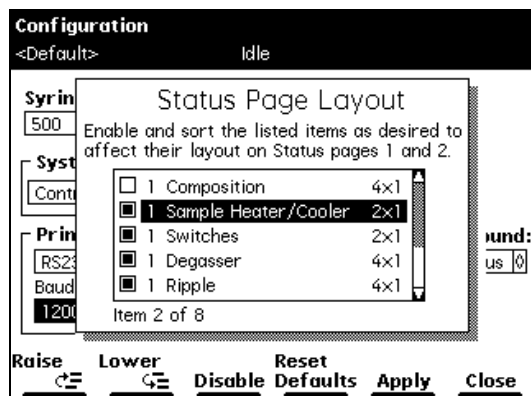

Figure 4-18 Status Page Layout Dialog Box
1. From the Main screen, press **Config**, **More**, then **Status Layout**. The Status Page Layout dialog box is displayed (Figure 4-18).